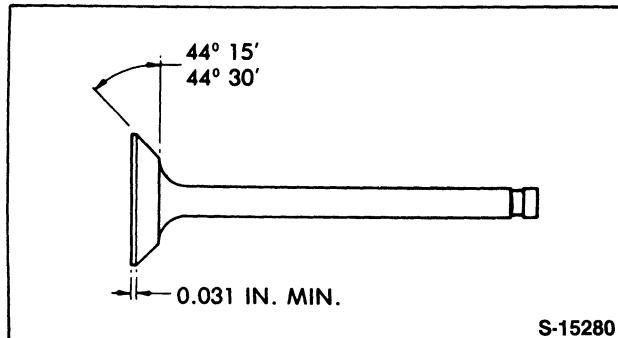

Figure 15
7. Examine the valve face and, if pitted, replace or reface by grinding to the dimension shown in Figure 15. Before refacing the valve, be sure the valve stem is not bent or worn and check the valve seat run-out, measured at right-angles to the seat, does not exceed a total of 0.0015 in. (0.04 mm).